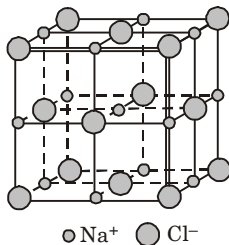

Fig. 1.8.1. Rock salt structure.
- (Fig. 1.8.1) shows the arrangement of anions and cations.